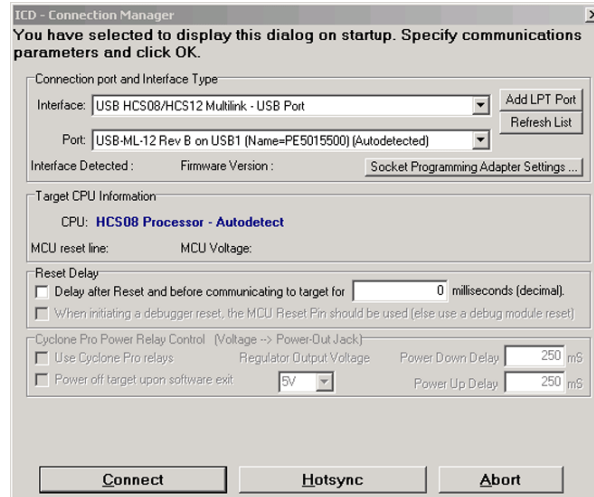

FIGURE 12. CODE WARRIOR SIMULATOR CONNECTION MANAGER
4. The *Connection Manager* dialog box appears (see Figure 12). Press Connect.